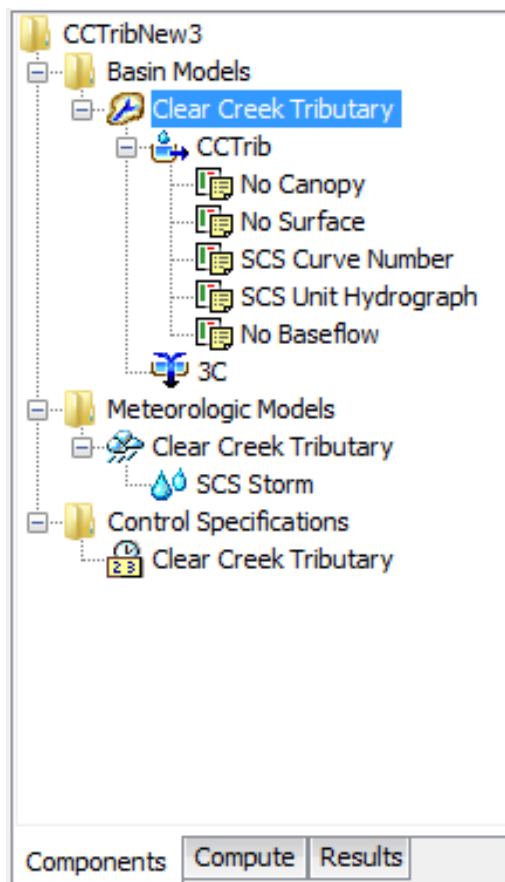

Figure 3 HEC-HMS Project Explorer
12. Expand the “Clear Creek Tributary” basin model and then select it. The HEC-HMS Project Explorer should appear similar to Figure 3.